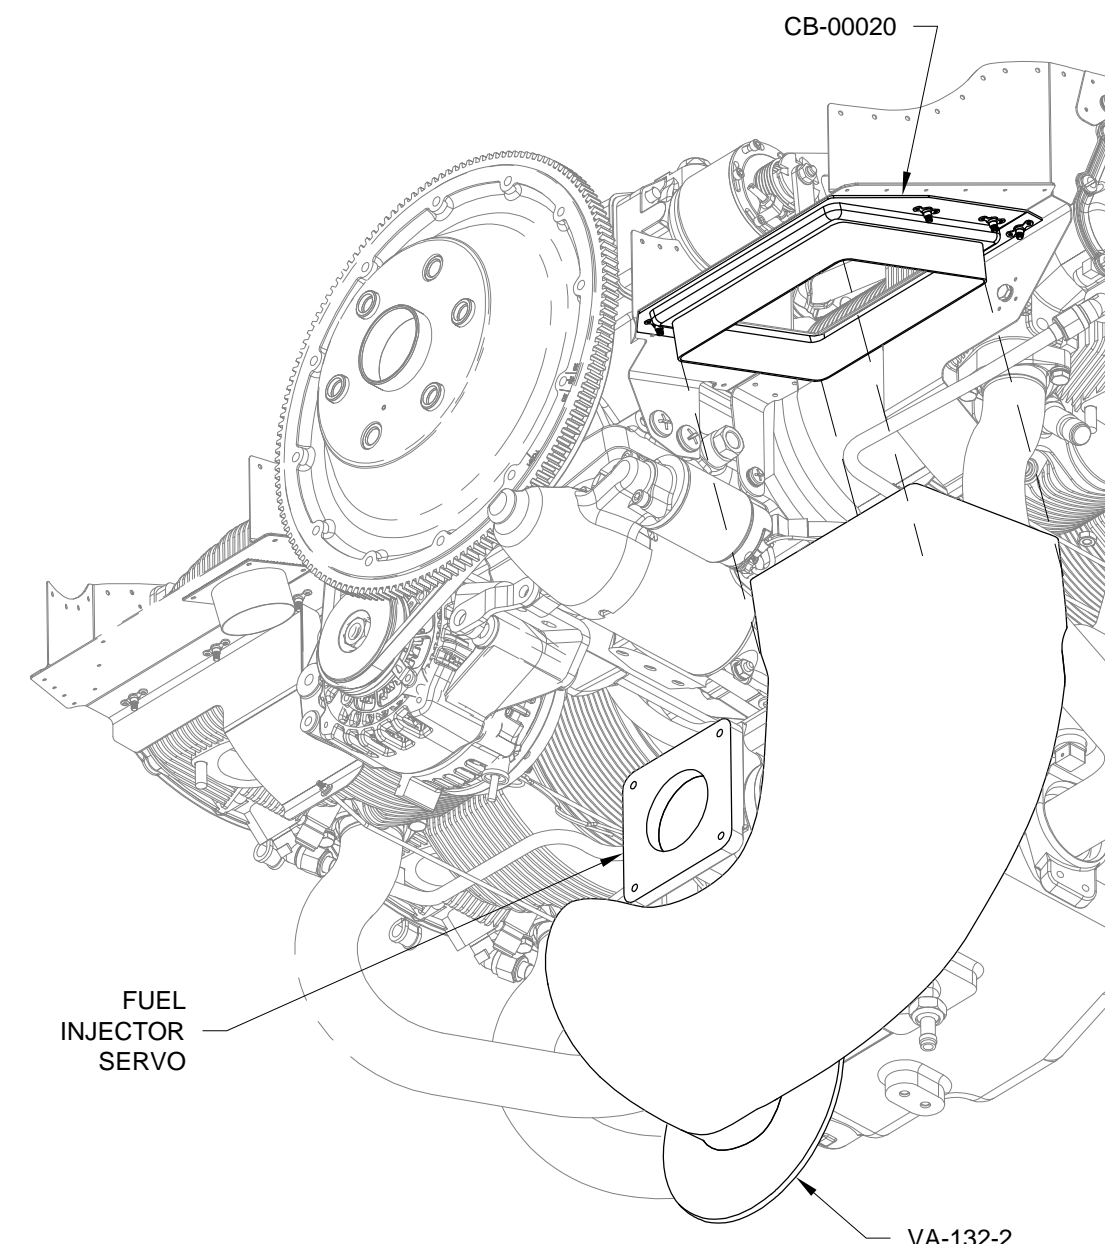

FIGURE 4: INSERT SNORKEL
Step 6: Insert the snorkel into the air filter frame and cleco the air filter frame to the left air ramp. See Figure 4.